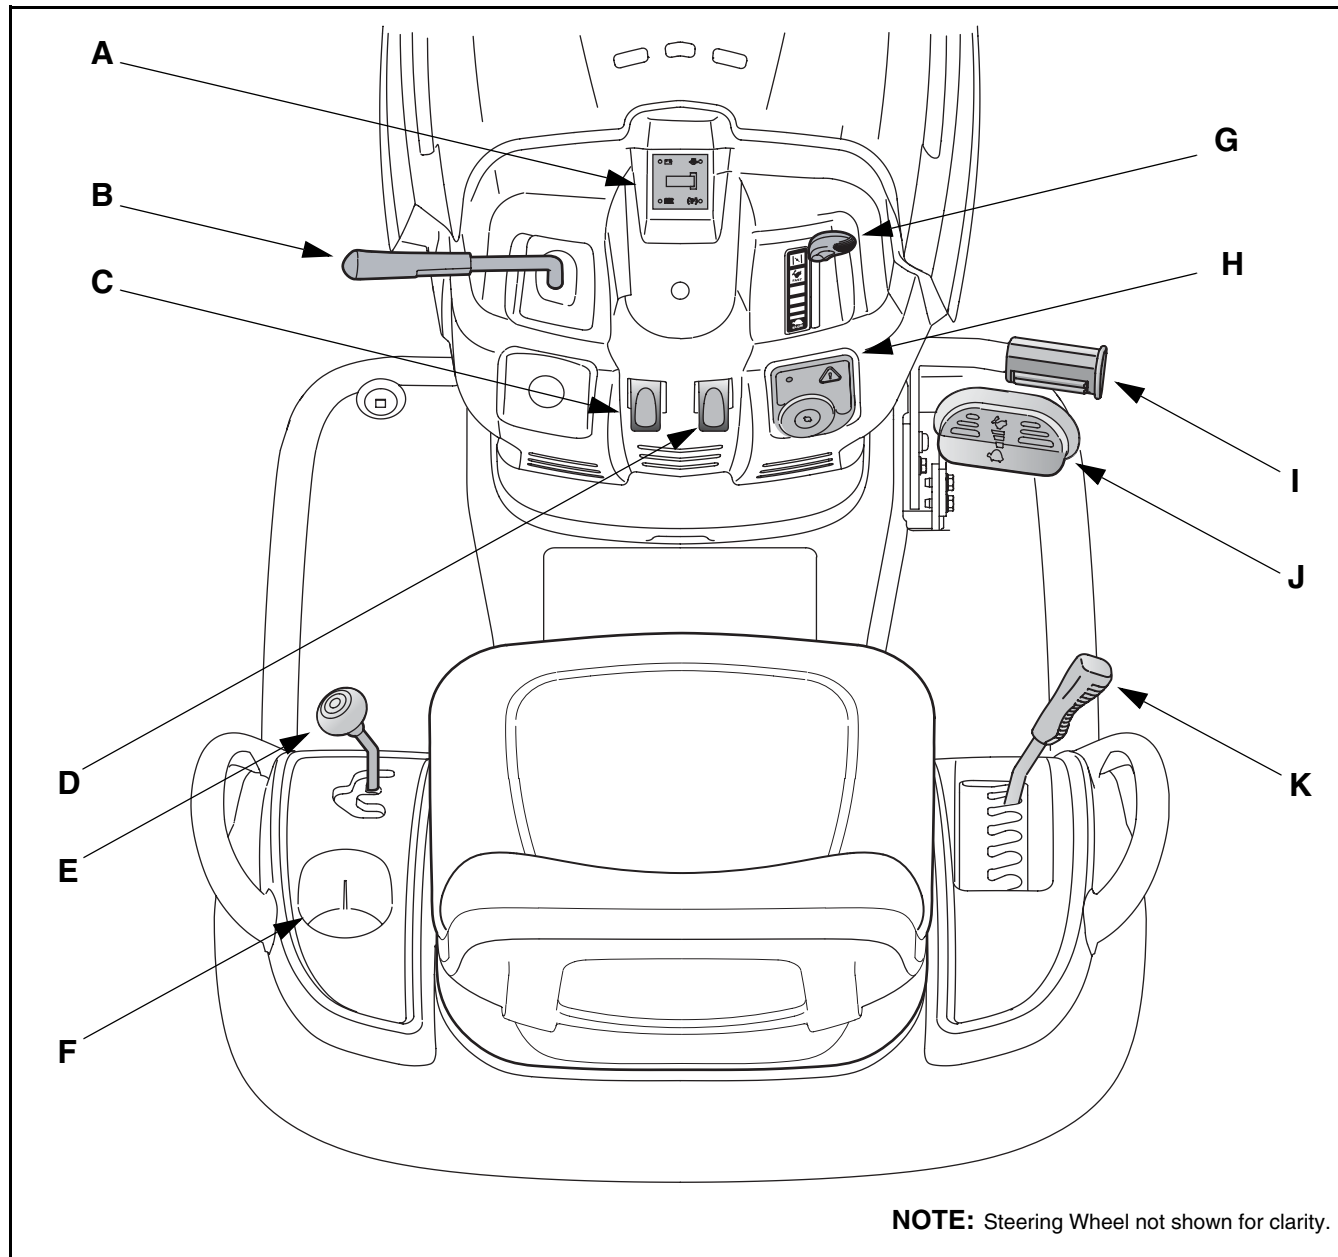

**Figure 5**
Place the tractor on a firm and level surface, preferably pavement, refer to Figure 5, and proceed as follows:
- d. Insert the shoulder screw with the rear gauge wheel into the index hole that leaves approximately 1/2" between the bottom of the wheel and the pavement. See Figure 5.